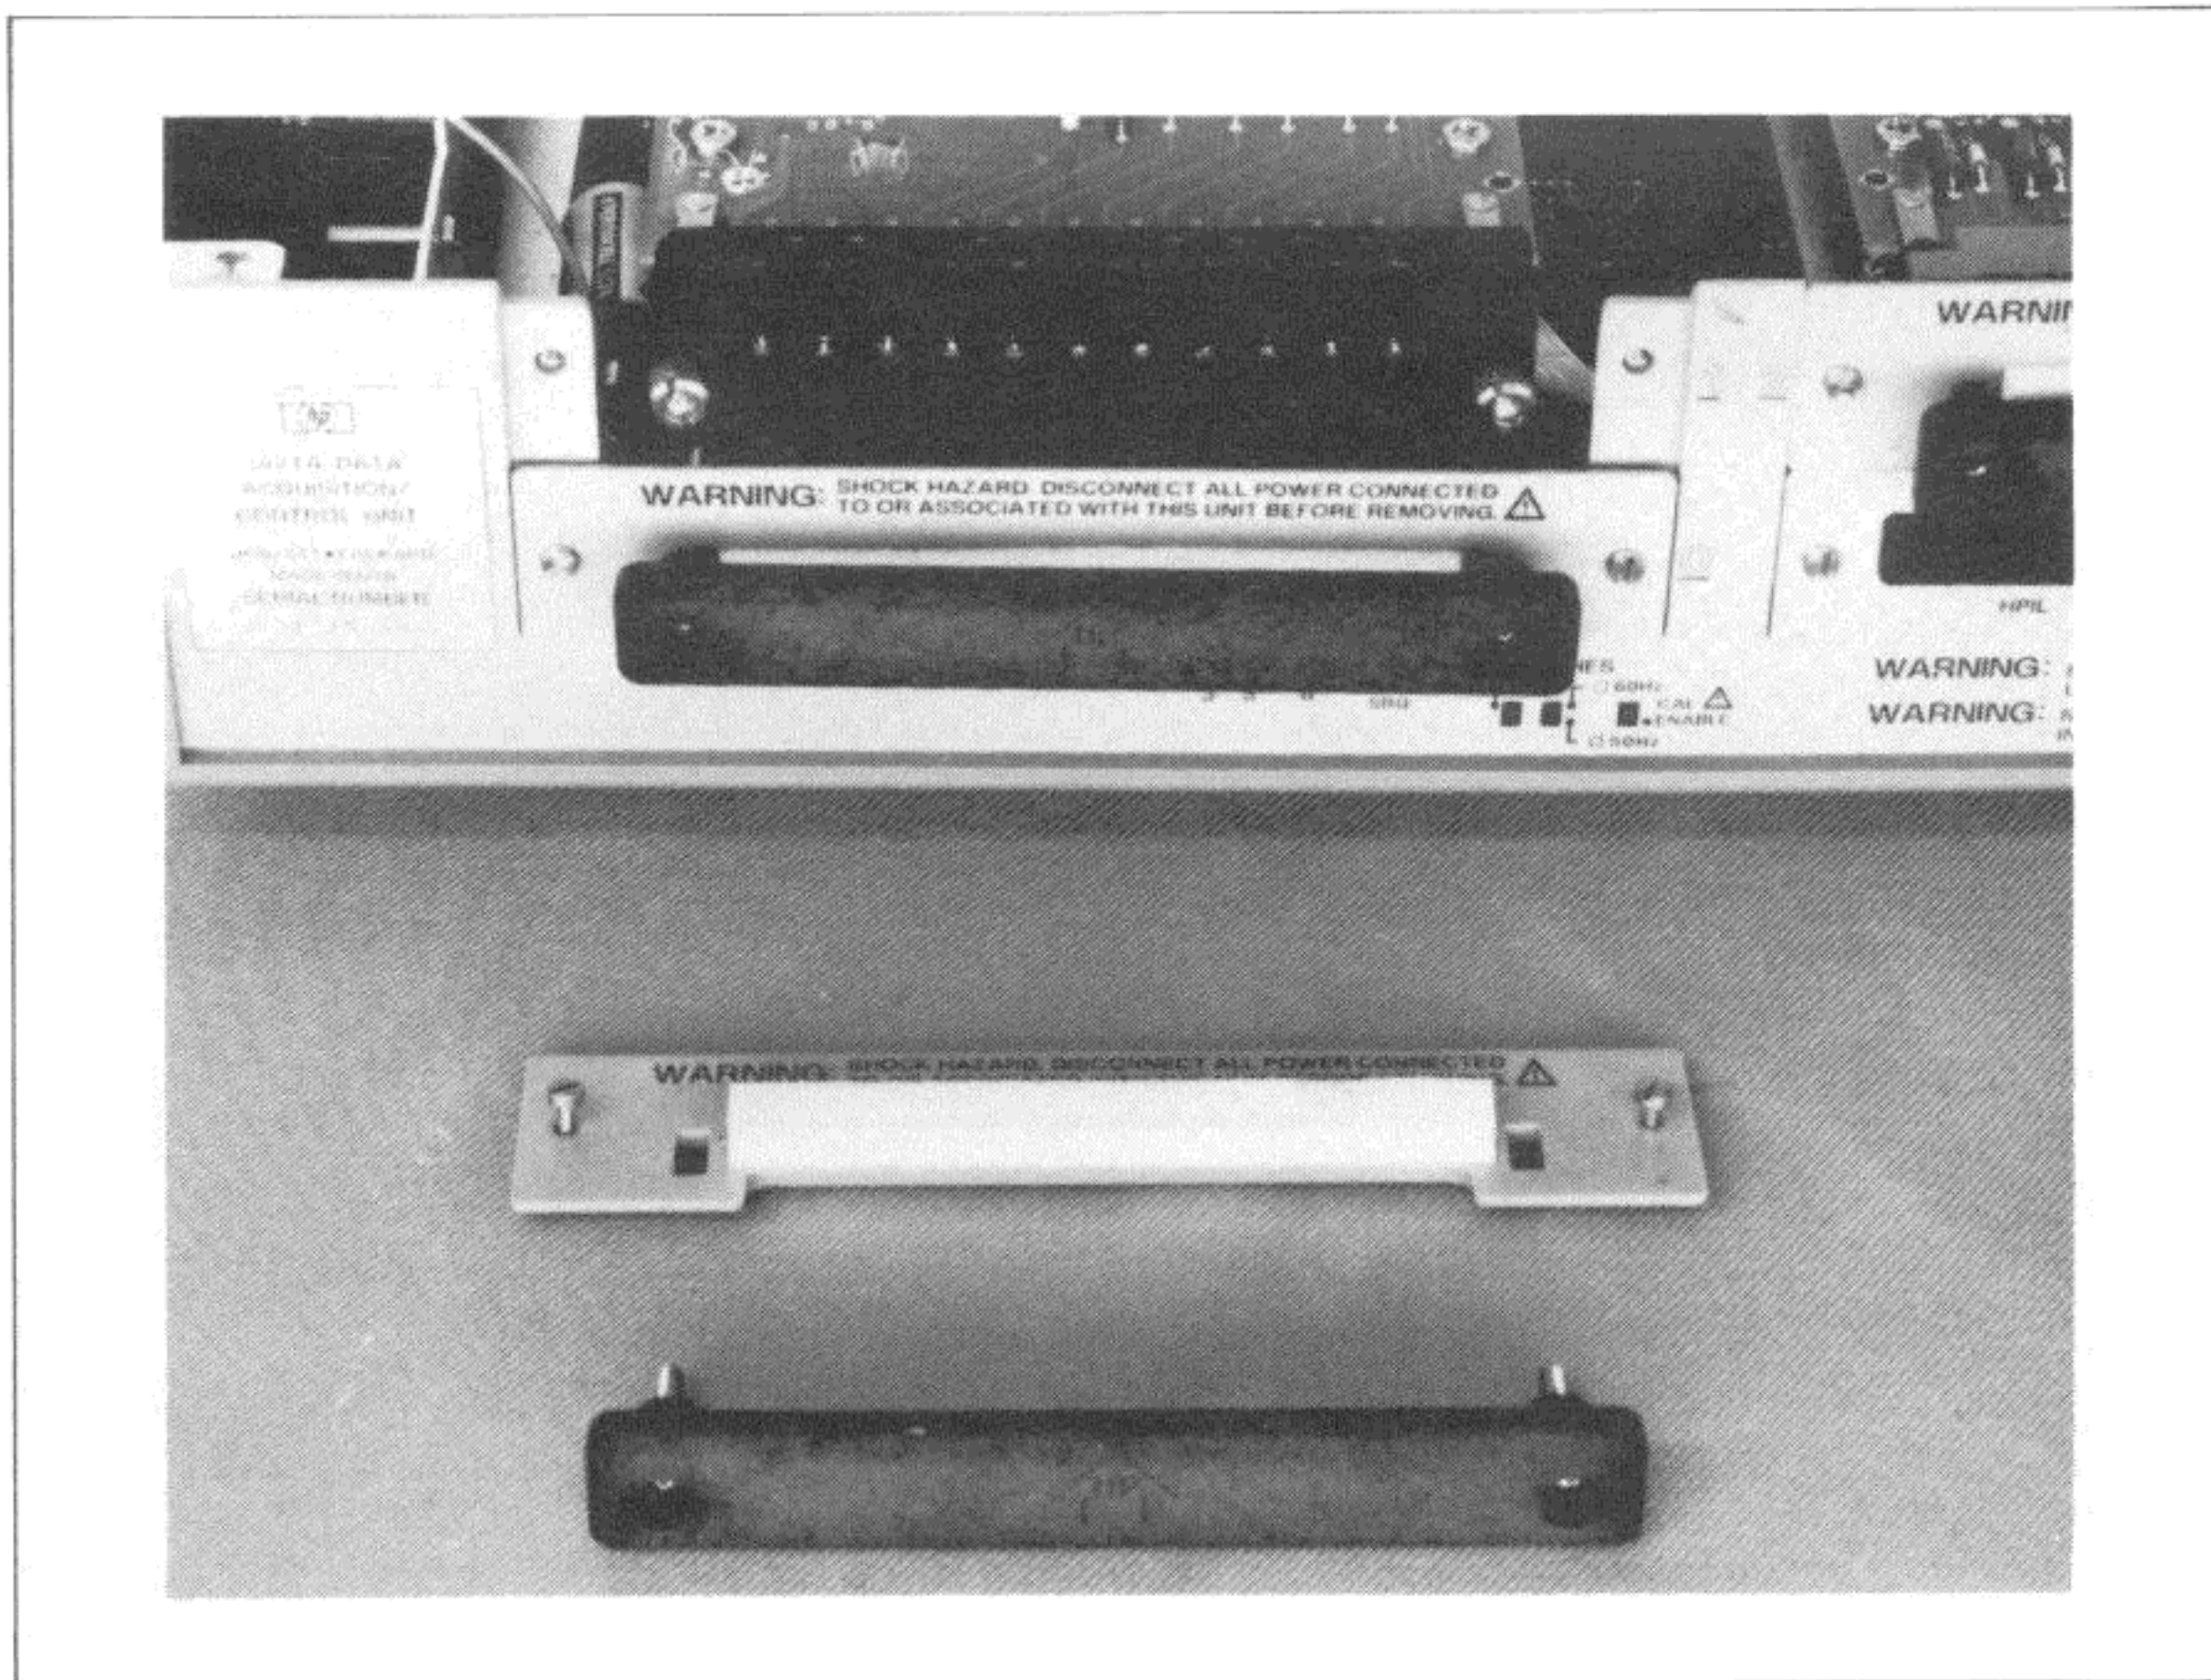

Figure 3-2-1. Remove Strain Relief and Safety Cover
1. Refer to Figure 3-2-1 and remove the two screws holding the black strain relief bar.